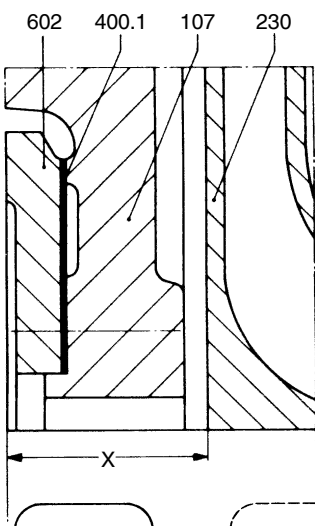

Fig. 61 Measurement of rotor adjustment.
17. After this mount the counter balancing disc (602) with flat gasket (400.1) in discharge casing (107) and tighten it firmly with the aid of the allen head screws.
Then slide the rotor towards the suction end of the pump until it abuts, then slide it towards the discharge end until it abuts, and measure the total axial play. There after slide the rotor back towards the suction end by one third of the measured total play. Measure distance "X" between hub of last stage impeller and rubbing face of counter balancing disc (602). (see Fig. 61)